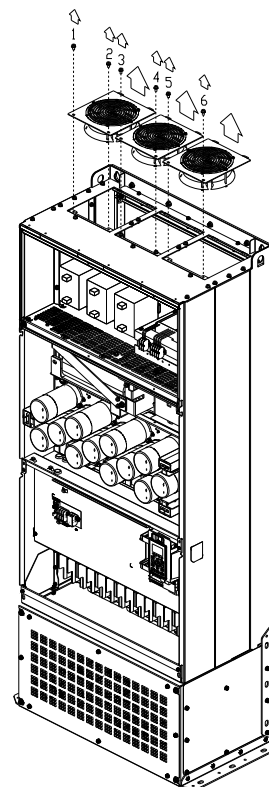

Figure 4
4. Loosen screws 1~6 (as shown below) and remove the fan. Make sure the fan is disconnected when removing. Screw torque: 24~26kg-cm / [20.8~22.6 lb-in.] / [2.4~2.5 Nm] (figure 4)